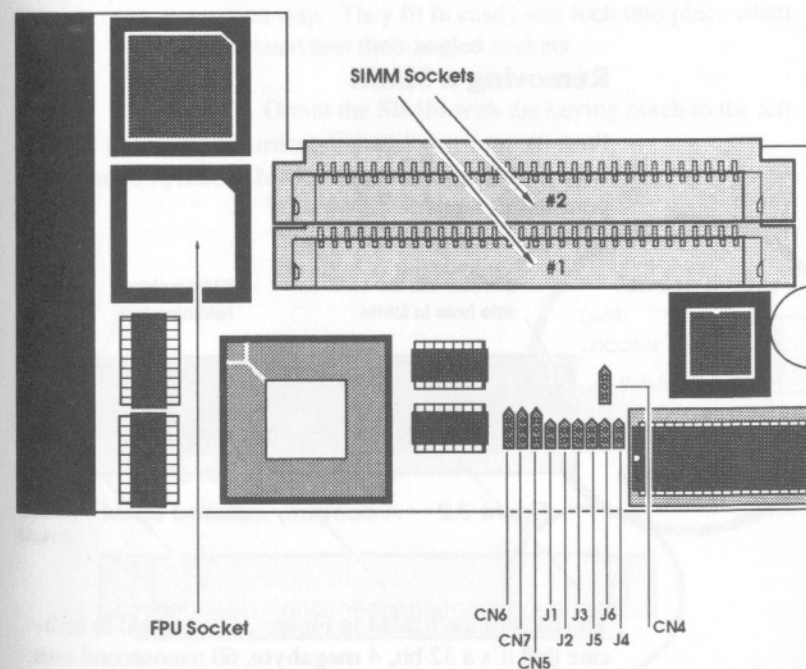
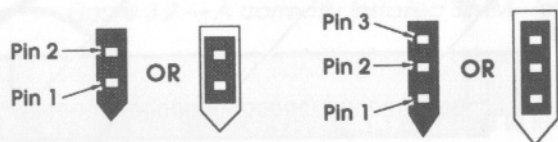

Figure 3.1 — Layout of The A1230 Turbo+ board
Figure 3.6 — Jumper pin numbering.
>>> The A1230 Turbo+ can use GVP's 1MB, 4MB or 16MB (megabyte) SIMM32 modules in any combination, as long as the SIMM with the highest memory capacity is always placed in SIMM Socket #1 (see Figure 3.1).
Below the SIMM sockets on the A1230 Turbo+ are a set of upright metal pins, in groups of two and three called **jumper pins** (see Figure 3.1 — they're labeled with 'J' and 'CN'). These are connection points for special circuits on the board, and are used to set various parameters for proper operation of the board. By pressing a **shorting block** onto a pair of pins, you're turning a parameter **ON**.
3. Orient the FPU so that the writing on the chip faces upwards and the notch in the corner of the chip matches the notch in the corner of the socket (see Figure 3.1). The chip will fit in the socket easily only one way.
Refer to the jumper labels in Figure 3.1, and Figure 3.6.
The following chart summarizes the jumper on the A1230 Turbo+. Many of these jumpers are covered by GVP for future enhancement of this product, and should NOT be changed from the settings given. GVP will not be responsible for any damage to the product caused by changing reserved jumper settings. Refer to the jumper labels in Figure 3.1 and Figure 3.6.